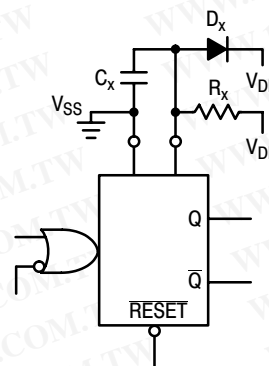

Figure 11. Use of a Diode to Limit Power Down Current Surge
7. If  $C_X > 15 \mu\text{F}$ , use discharge protection diode per Fig. 11.
When a more rapid decrease of  $V_{DD}$  to zero volts occurs, the MC14538B can sustain damage. To avoid this possibility use an external clamping diode,  $D_X$ , connected as shown in Fig. 11.